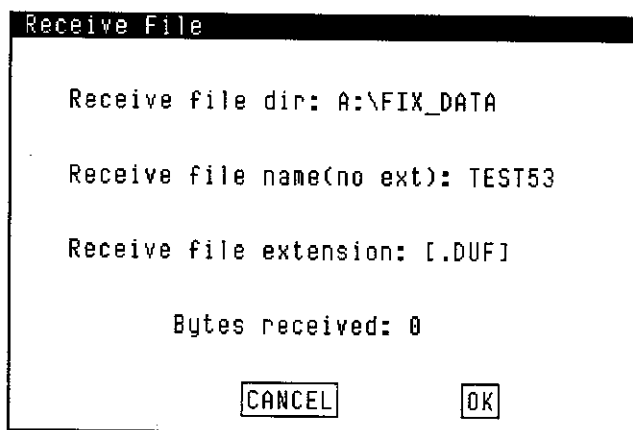

Figure 8-10. Receive File Window
3. Click on **<Receive>**. The Receive File window, Figure 8-10, is displayed. Input the directory, file name and the extension for the incoming file. The selections for the extensions are shown in Table 8-3.